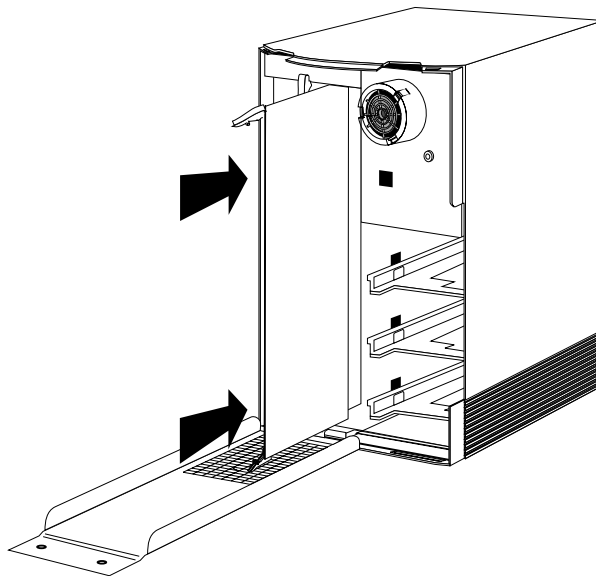

Figure 6-17 Installing the Graphics Board
- Slide the board in almost all the way, as shown in Figure 6-17.